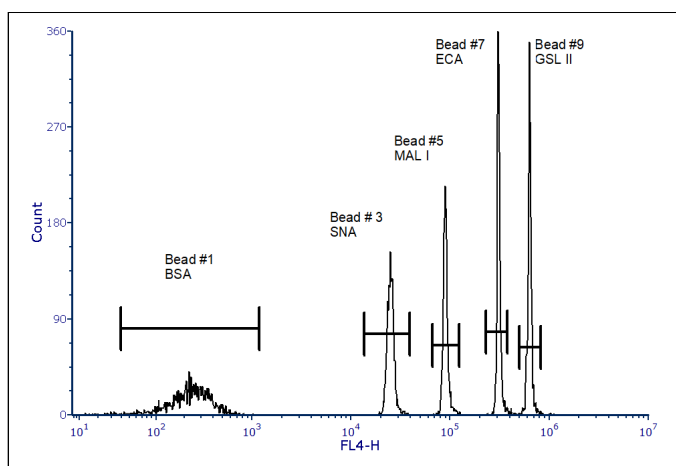

Fig. 2. Histogram of bead gated microspheres, with each bead Peak # gated separately.
- FL4 (APC) histogram gating on scatter gated GlycoSense™ beads collected on a BD Accuri C6 flow cytometer. The Bead # corresponds to the Peak # in the histogram. Each peak has been gated separately in Figure 2 using FCS Express 6. Depending on the cytometer type, PMT or voltage values may need to be adjusted in order to fit all peaks on the histogram plot. Determine these values experimentally based on your cytometer. Alternately, bivariate dot plots of forward or side scatter vs. bead fluorescence on scatter gated beads can be used to gate GlycoSense™ bead populations instead of histograms.
- Create an FL1 (FITC) green fluorescence channel histogram plot for each gated microsphere peak in the FL4 (APC) histogram plot. This will allow for recording median green fluorescence values for each microsphere peak. The individual gate for each peak in the FL4 histogram plot in Figure 2 will have a separate FL1 histogram plot based on that gate. Depending on the type of cytometer and concentration of sample, PMT or voltage values may need to be adjusted for the green fluorescence channel. After collecting the highest concentration or most fluorescent sample, adjust the PMT or voltage so that the highest value FL1 histogram is within scale of the plot and maximizes the dynamic range of fluorescence. The sample may need to be run again if the PMT or voltages were set too high or too low during the initial setup. Cytometers which have pre-set or non-adjustable PMT and voltage values such as the BD Accuri C6 do not require this adjustment, while cytometers with adjustable values will require some settings optimization. **No compensation is necessary in this assay as there is no overlap between the microsphere fluorescence and protein label fluorescence.**